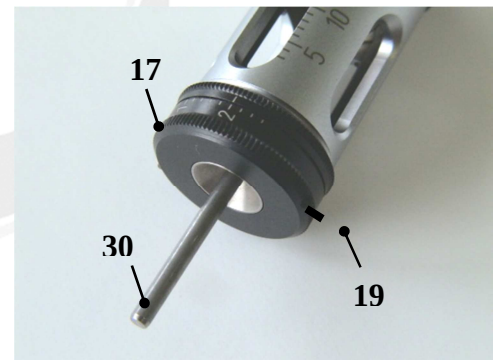

*Fig. 24 Insert calibrating mandrel*
- By rotating the centering scale **(17)**, fully open the centering jaws **(25)** and insert calibrating pin **(30)**. Then by rotating the centering scale **(17)** close the centering jaws as far as the calibrating pin **(30)**. **(Fig. 24)**
- Loosen screw **(19)** (black) and set centering scale **(17)** to diameter **2 mm**. Retighten screw **(19)** (black) and remove calibrating pin **(30)**. **(Fig. 24)**